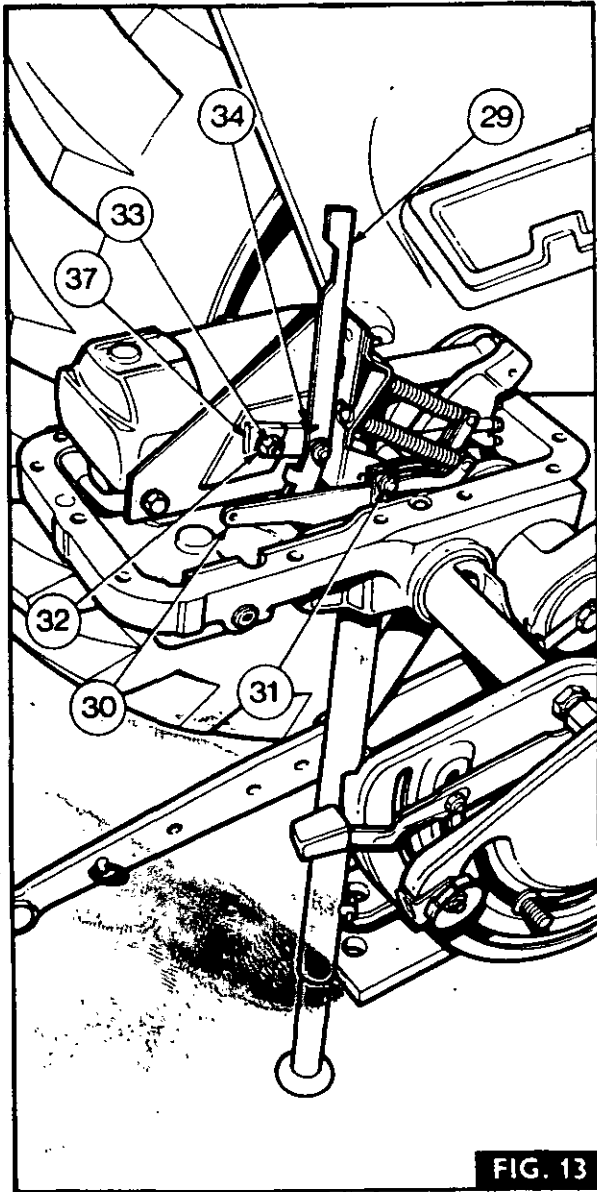
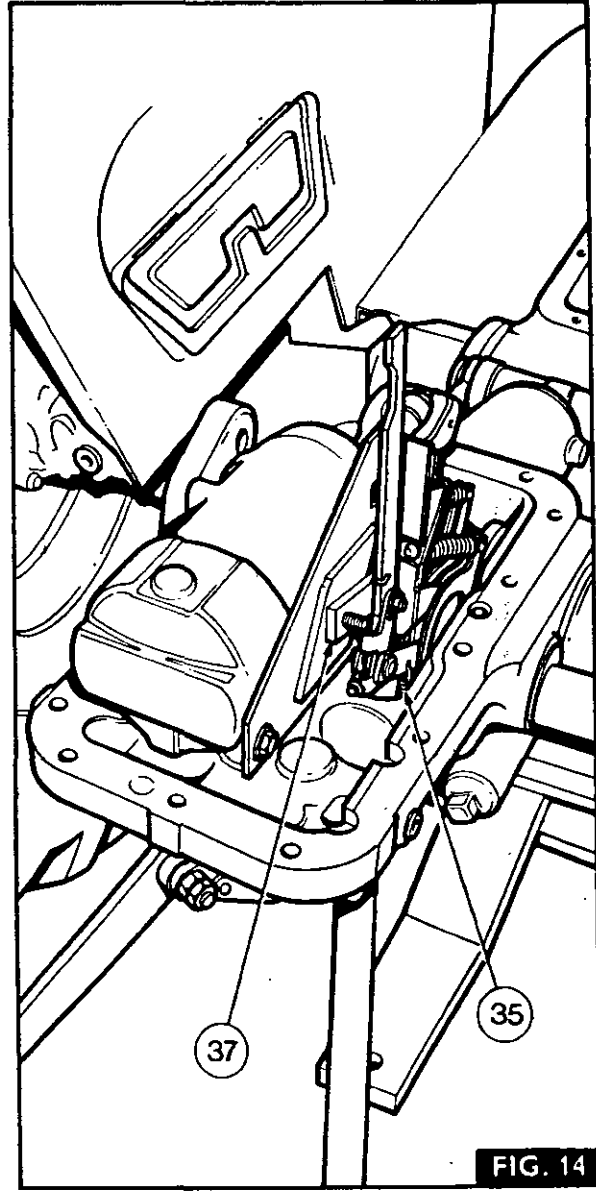
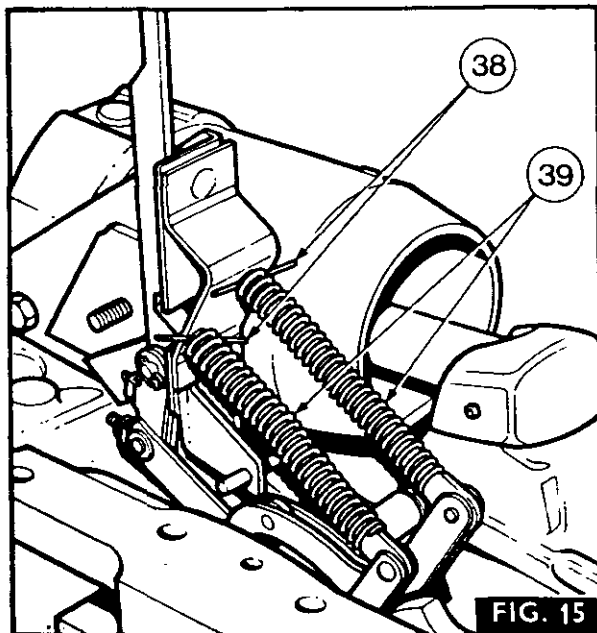

FIG. 13
FIG. 14
FIG. 15
2. Fig. 13. Remove the split pin (31) and the washer retaining the Pressure Control link (30), and remove the link.
3. Release the tabwasher, then remove the nut (33), tabwasher and spacer (32) on the slide pivot (37).
4. Release the spring (34) on the vertical lever (29).
5. Fig. 14. Remove the Position Control spring (35).
6. Release the slide pivot (37) from the bolt.
7. Fig. 15. Fit a pair of pins (38) to retain the springs (39) on their rods.
13. Fig. 15. Remove the guide rod spring retaining pins (38).
14. Fig. 14. Refit the position Control spring (35).
15. Fig. 13. Locate the spring (34) on the vertical lever (29) and on the slide pivot (37).